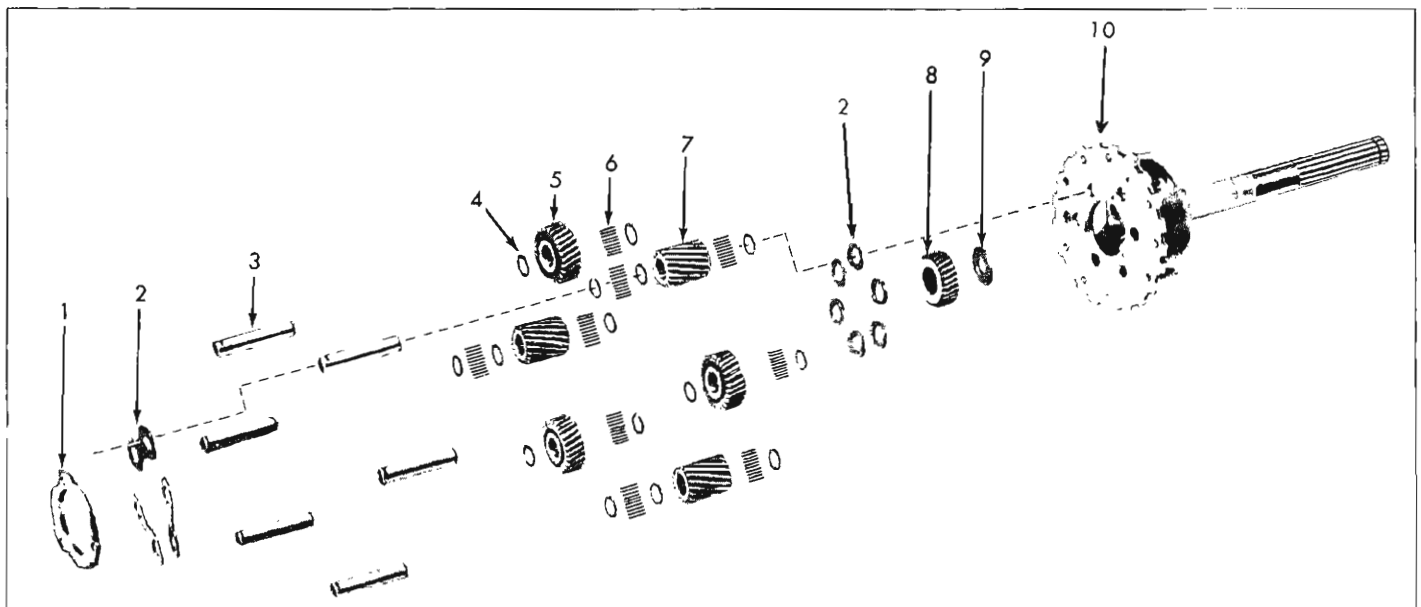

Fig. 29—Planet Carrier Assembly - Exploded View
Refer to Figure 29.
15. Using J-9538, assemble needle bearing spacer and needle bearings (20 in each path) in one of the long planet pinions (fig. 29). Use petroleum jelly to aid in assembling and holding the needle bearings in position.